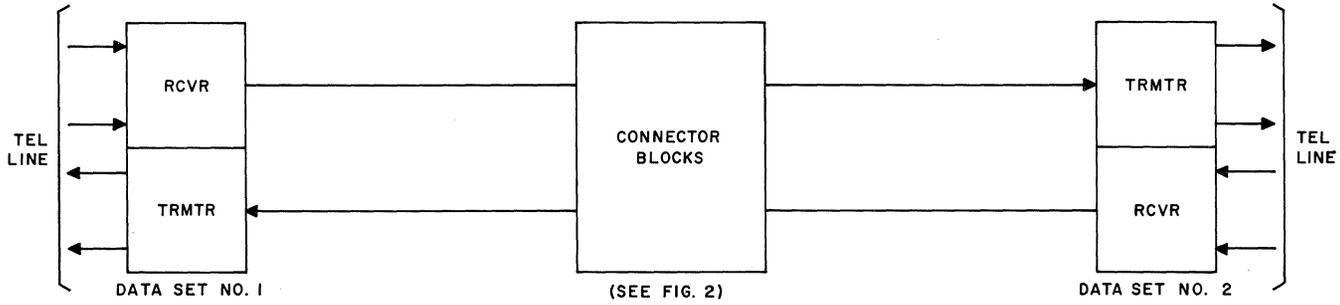

Fig. 1 — Regeneration Connections, Block Diagram
**5.31** The RGRN circuit permits the data set to be operated as a regenerator. Two data sets are required for each 4-wire regenerative repeater. Interconnections between the two data sets are established through the CUSTOMER B connectors. Fig. 1 and 2 show typical regenerative repeater connections. Both RGRN and the SS interface leads must be turned ON when the data set is used as a regenerator. The frequency of the receiver clock signal appearing at SCR is 1200 cps (receiver dibit clock). Received data (RD) is connected to the send data (SD) input of a transmitter. SCR is connected to the external timing input (SCTE) of a transmitter to keep the transmitter dibit clock "in phase" with the receiver dibit clock. This maintains the identity of the A and B data bits and guarantees that the repeated line signal is identical to the received line signal at a regenerative repeater.